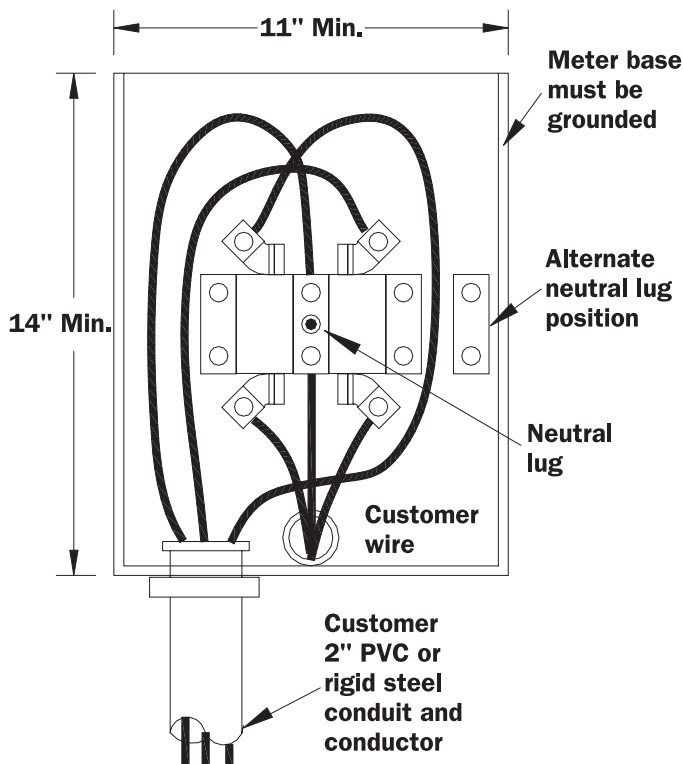

Figure D-2.
- Be at least 4-1/4 inches deep, 11 inches wide, and 14 inches high (see Figures D-2 and D-3).